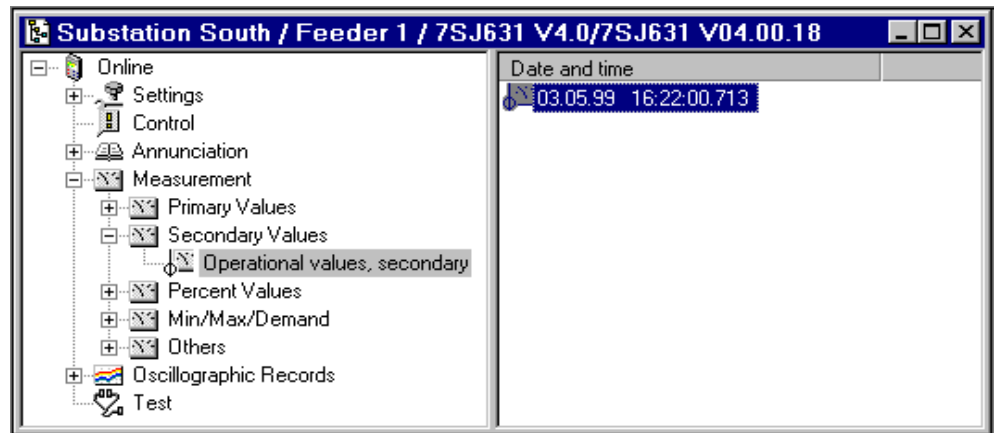

Figure 3-8 DIGSI® 4 — Viewing the secondary operating measured values — example
- ❑ The present date and time are shown in the data window (right), as illustrated in Figure 3-8.